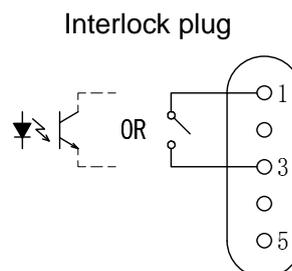

Figure 15 Interlock Control Procedure
3. The control procedure is shown in Figure 15
Connect the accessory Interlock Plug to the “Interlock Terminal ⑫” on the rear panel. Confirm that either the Interlock Plug 1 - 3 Pins are short circuited or that interlock remote control signals (refer to Figure 15 Interlock Control Procedure) are input.